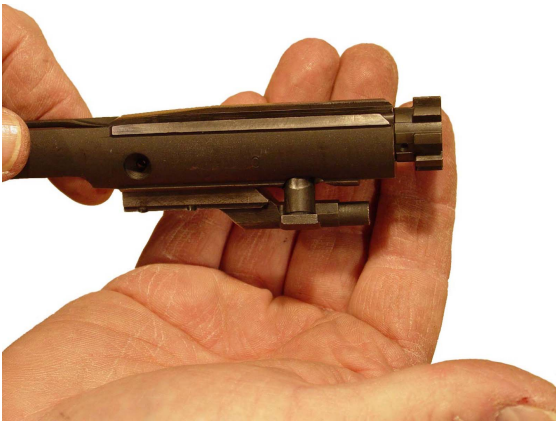

Figure 3-12. Bolt Cam Pin Removal
- (4) To remove the bolt cam pin, turn the bolt carrier upside and tap the bolt carrier against palm of hand. Bolt cam pin will fall out. Refer to Figure 3-12.